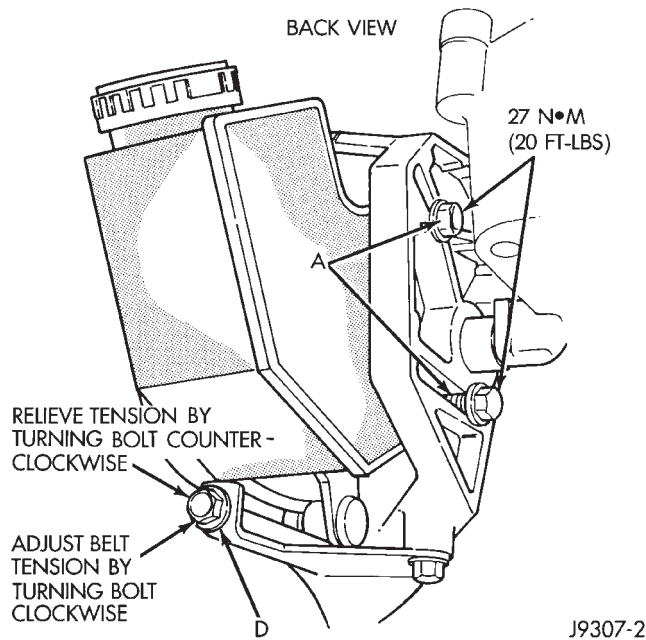

Fig. 5 P.S. Pump Rear Mounting Bolts—4.0L Engine
- (1) Loosen two rear power steering pump mounting bolts A (Fig. 5).
- (3) Loosen pump adjusting bolt D (Fig. 5).
- (4) If belt is to be adjusted, refer to Drive Belt Tension specifications at the end of this group for correct tension and proceed to step 7.
- (5) Check condition of all pulleys.
- (6) Install new belt. Refer to the end of this group for Drive Belt Tension specifications.
- (7) Tighten pump adjusting bolt D (Fig. 5) to attain proper belt tension.
- (8) Tighten rear pump mounting bolts, pivot bolt and lock nut to 27 N•m (20 ft. lbs.) torque.